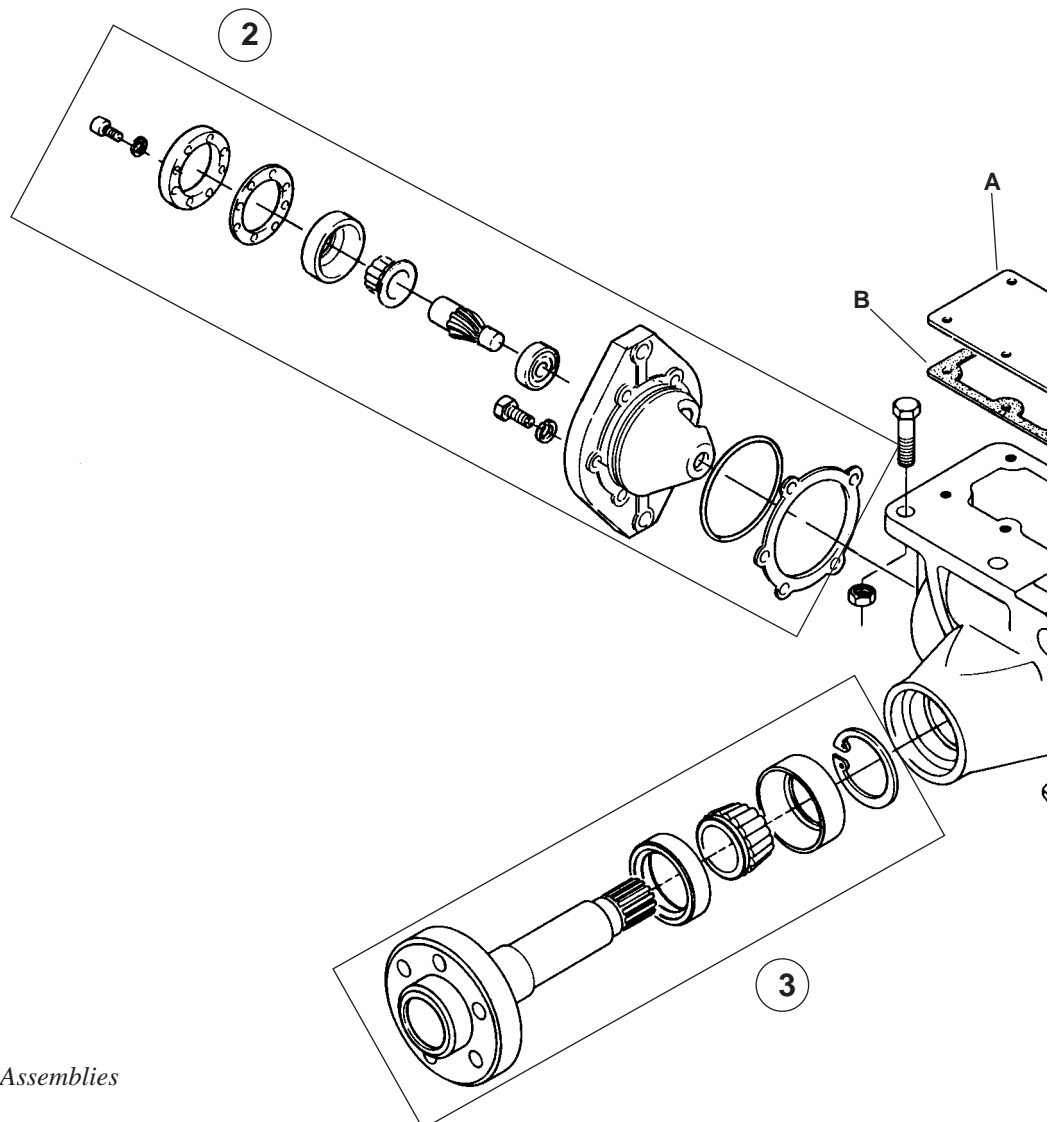

Figure 1A. Drive Unit Sub-Assemblies
Refer to Figures 1A and 1B.
5. Remove the inspection (A) cover and gasket (B) from top of unit. (Figure 1A.)